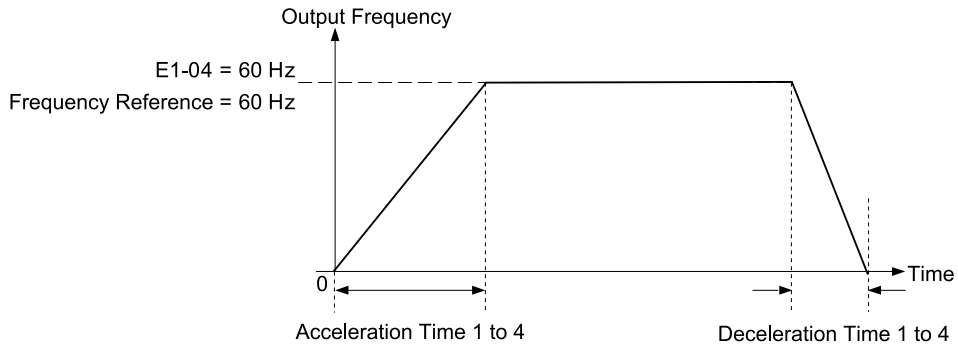
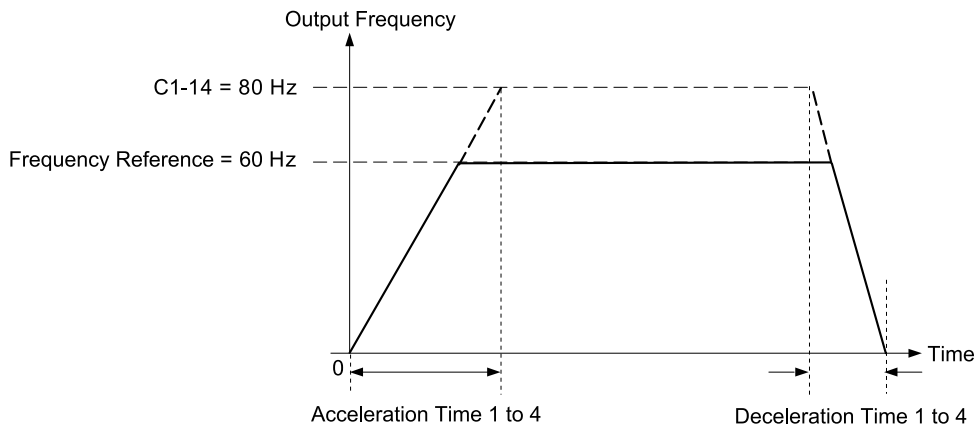

Figure 12.47 Example 1: Acceleration/Deceleration Rate (When C1-14 = 0 Hz, E1-04 = 60 Hz, and the Frequency Reference is 60 Hz)
Figure 12.49 Example 3: Acceleration/Deceleration Rate (When C1-14 = 80 Hz, E1-04 = 60 Hz, and the Frequency Reference is 60 Hz)
- Figure 12.47 to Figure 12.49 show the accel/decel times when C2-01 to C2-04 [S-Curve Times @ Start/End of Accel/Decel] = 0.00 s.